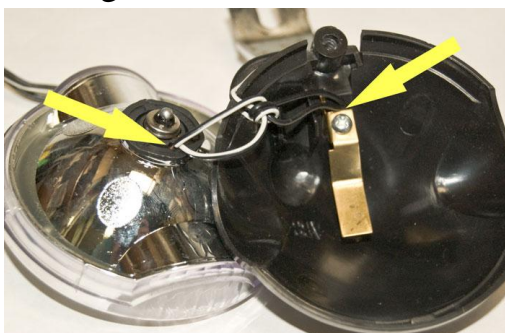

Fig. 1
3. Check the voltage between two wires is 36V (as two yellow marks on Fig. 1).